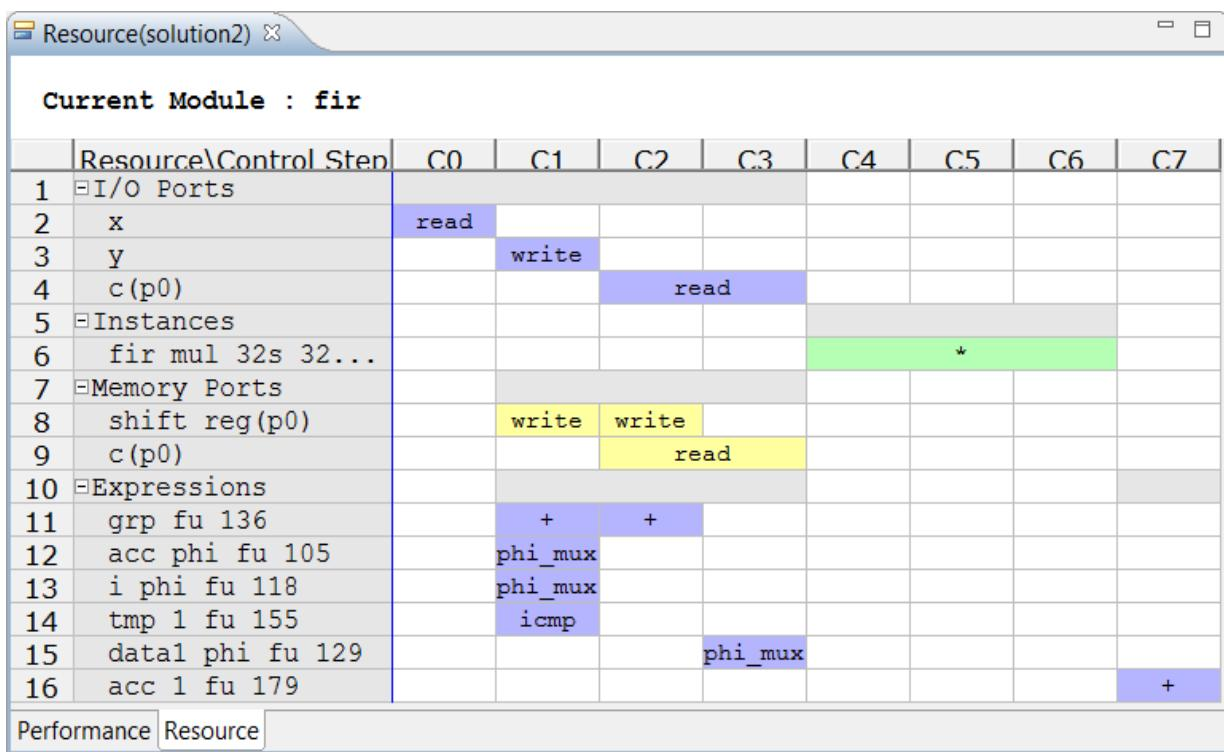

Figure 2-26: Solution2 Analysis Perspective: Resource
19. Click the **Resource** view, as shown in Figure 2-26.
20. Expand all the resource groups (also shown in Figure 2-26).